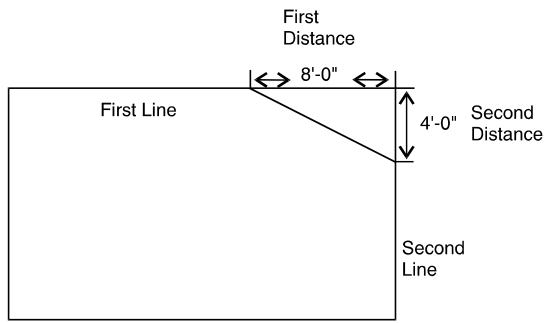

**Figure 12.1:** Lines trimmed to fillet (Clip on) and lines left untrimmed (Clip off)
**Shortcut:** Press (Alt) + (F) to access the Fillets menu.
4. Toggle Clip on or off. To trim the ends of the selected lines to the ends of the arc, toggle Clip on. To draw the arc but leave the ends of the lines unaffected, toggle Clip off (see Figure 12.1).